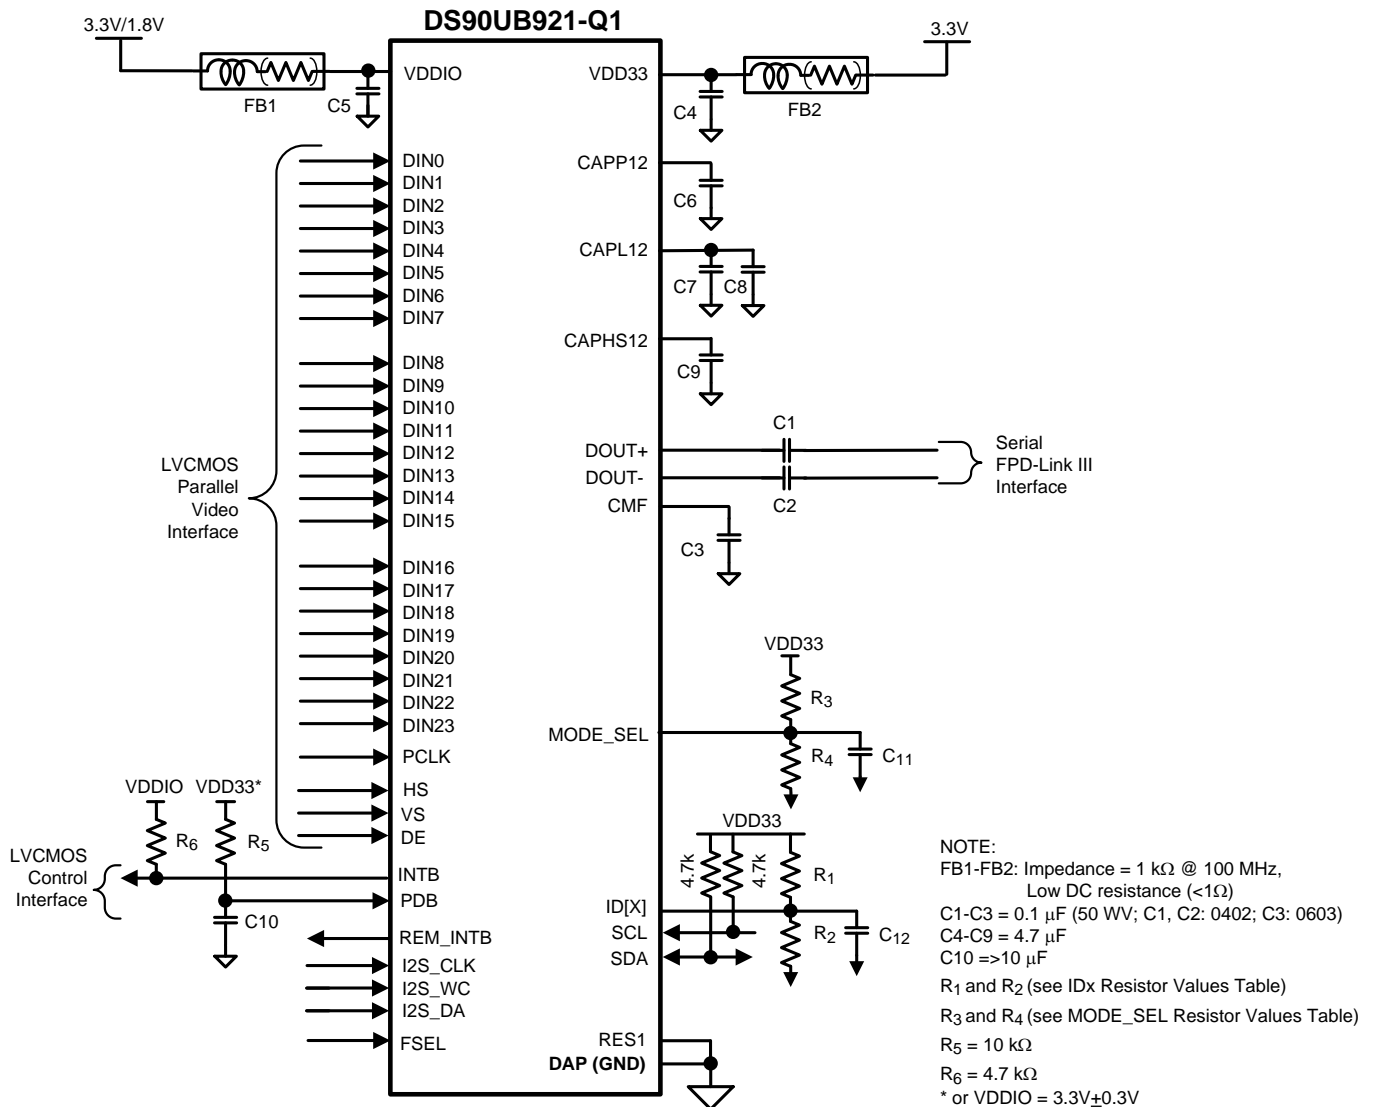

Figure 26. Typical STP Connection Diagram
Figure 26 shows a typical application of the DS90UB921-Q1 serializer for an 96 MHz 24-bit Color Display Application. The CML outputs must have an external 0.1  $\mu\text{F}$  AC coupling capacitor on the high speed serial lines for STP applications and 0.33  $\mu\text{F}$  / 0.15  $\mu\text{F}$  AC coupling capacitors for coax applications. The same AC coupling capacitor values should be used on the paired deserializer board. The serializer has an internal termination. Bypass capacitors are placed near the power supply pins. At a minimum, six (6) 4.7 $\mu\text{F}$  capacitors and two (2) additional 1 $\mu\text{F}$  capacitors should be used for local device bypassing. Ferrite beads are placed on the two (2) VDDs (VDD33 and VDDIO) for effective noise suppression. The interface to the graphics source is with 3.3V LVCMOS levels, thus the VDDIO pin is connected to the 3.3 V rail.